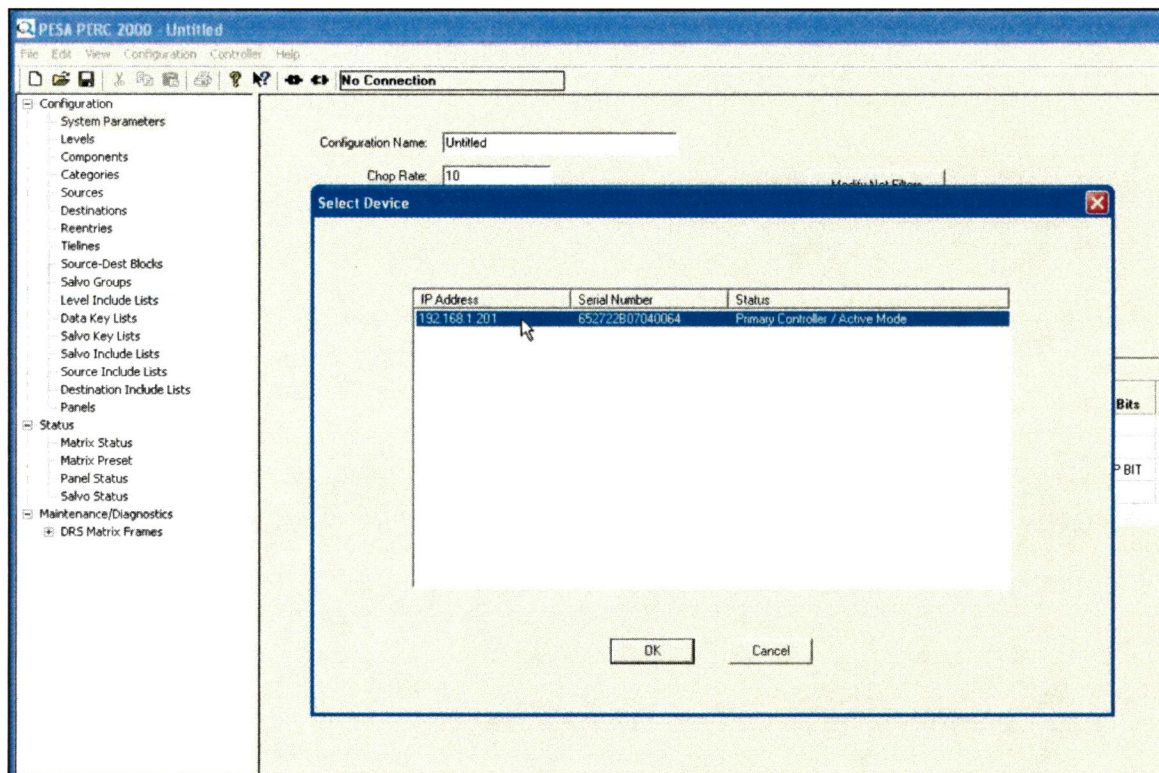

Figure 30. Select Device Window
- ☐ 6. This will bring up the Select Device window as shown in Figure 30. There should only be one device listed and that is the P1K you just loaded into the PRI slot of DXE frame 1. The device is listed by IP address number and it may be different than what is shown